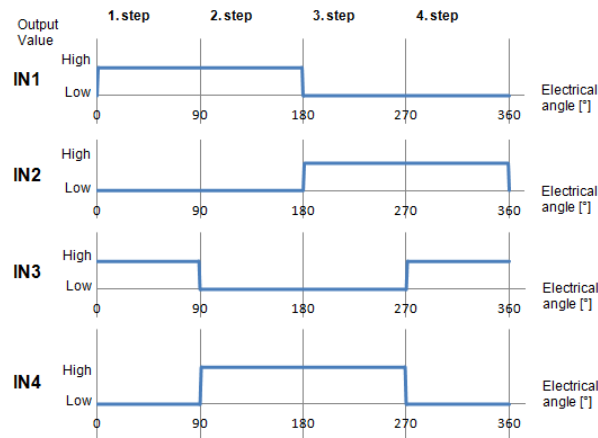
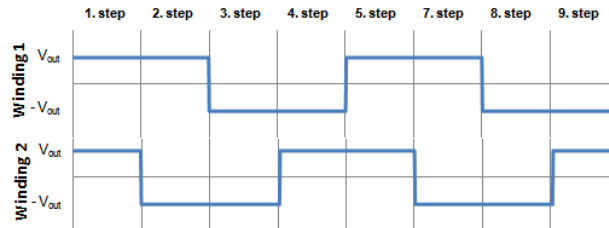

Figure 30. Signals of logic input pins generated by the MCU in Full-step mode
Figure 31. Output of the H-Bridge device in Full-step mode
- Forward motor direction indicates that steps are executed in the order depicted in Figure 30. IN1 through IN4 are the input pins of the H-Bridge device which control H-Bridge outputs. These pins input to the stepper motor. You must connect the stepper motor to output pins OUT1-OUT4 and select control input pins on your MCU in the component settings.
As mentioned in Section 6.3.4, you can generate a full-stepping signal either by using four channels of a timer or by using four GPIO pins. The signal generated by the MCU (inputs of H-Bridge device) using four timer channels is shown in Figure 30. The voltage levels applied to the coils of the stepper motor are depicted in Figure 31. Note that the voltage is applied to both coils at the same time.